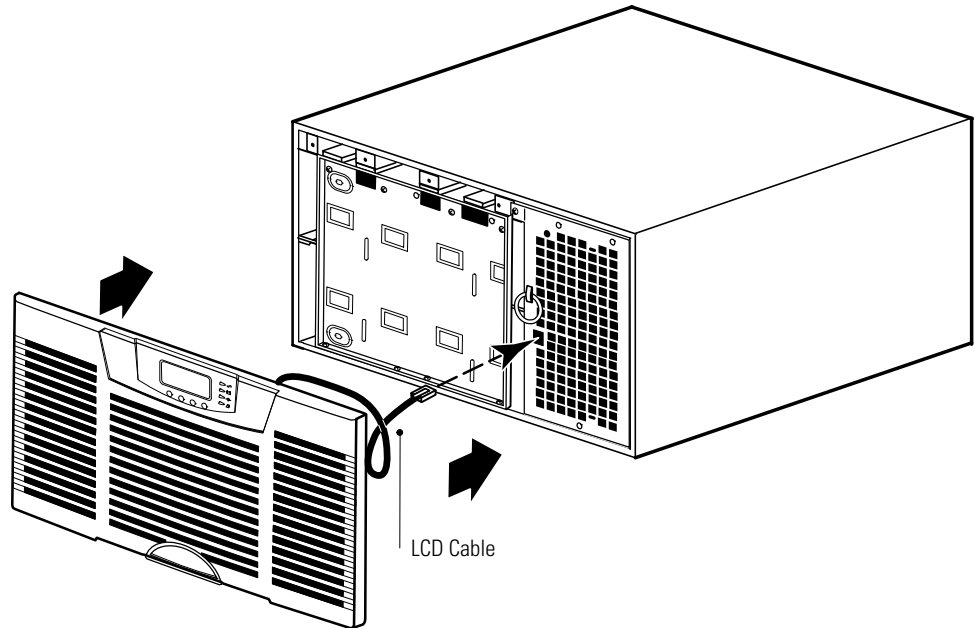

Figure 60. Replacing the UPS Front Cover
7. Replace the UPS front cover (see Figure 60):